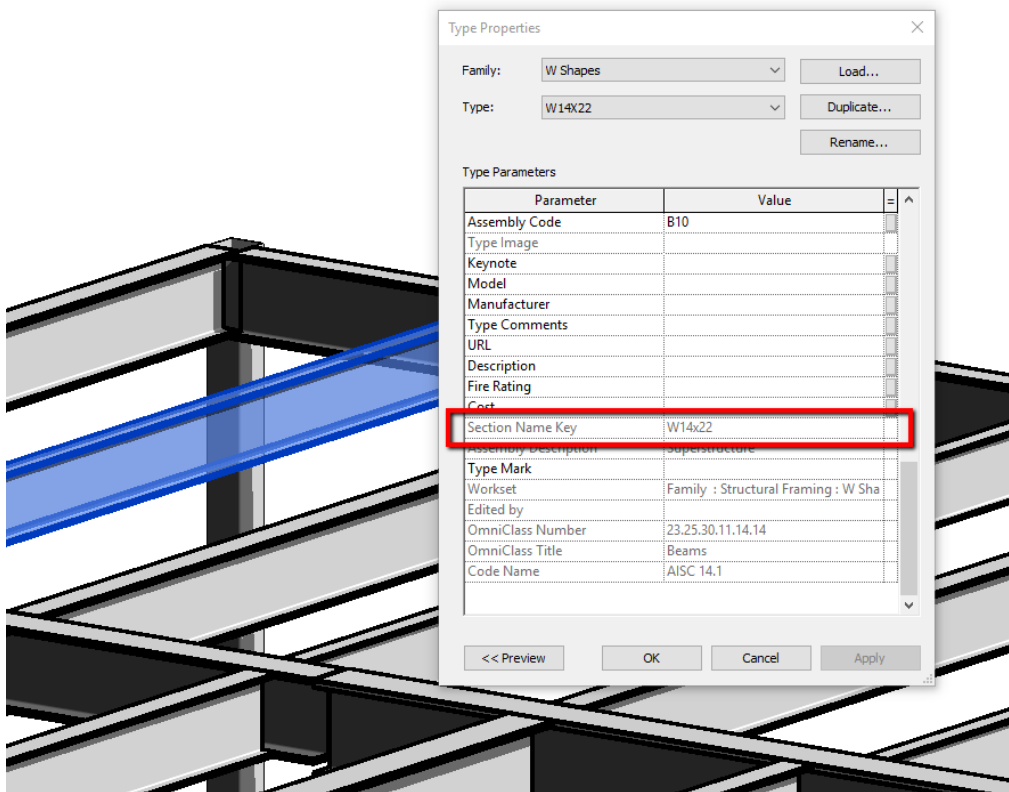

FIGURE 15: TYPE PARAMETER THAT EXISTS IN AISC 14.1 FAMILIES
- Load and use the certified Structural Framing and Structural Column families that are delivered with Revit 2016 and Revit 2017. These are in a folder called 'AISC14.1' in the Structural Framing Library (for example, the Imperial directories are: C:\ProgramData\Autodesk\RVT 2017\Libraries\US Imperial\Structural Framing\Steel\AISC 14.1 and C:\ProgramData\Autodesk\RVT 2017\Libraries\US Imperial\Structural Columns\Steel\AISC 14.1). To determine if you are using the proper families, look for the 'Section Key Name' type parameter (see Figure 15 below).